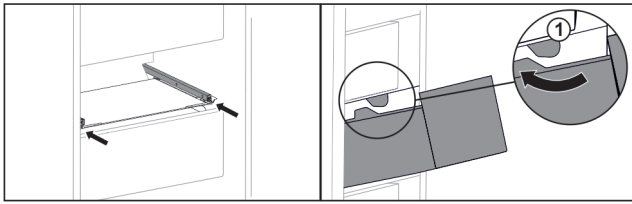

Fig. 48
- ▶ Guide drawer around the stoppers Fig. 48 (1).